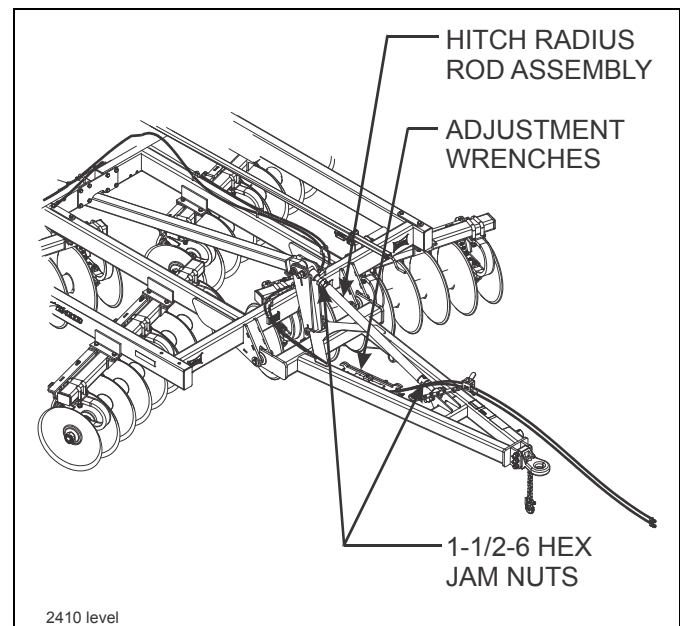

Figure 4-6: Radius Rod Leveling Adjustment
3. To adjust the leveling feature, loosen jam nuts at each end of the radius rod using the adjustment wrenches (See Figure 4-6.) To raise the front of the Weatherproofer I, lengthen the radius rod assembly. To lower the front of the Weatherproofer I, shorten the radius rod assembly. After adjusting, retighten jam nuts at each end. Adjustments should be made in small increments.